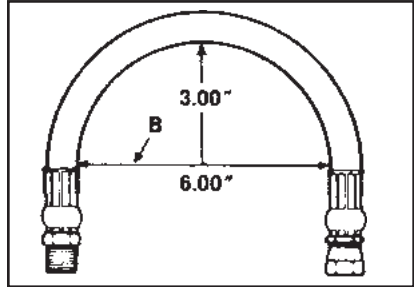

Fig. 19
8. Keep the bend radius of the hose as large as possible to avoid collapsing the hose and restriction of flow. Minimum bend radius is measured on the inside bend of the hose. To determine minimum bend, divide the total distance between ends (B length) by 2. For example, B = 6", minimum bend radius = 3" (**Fig. 19**).